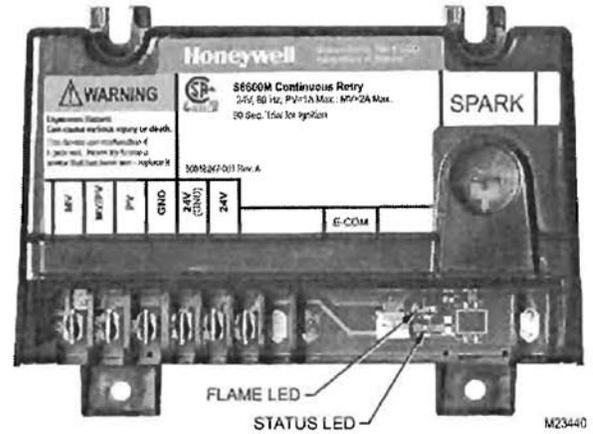

Figure 21: LED Locations
- A. See Figure 20 for electronic ignition (EI). Electronic Ignition Modules with LED indicators. Table 5 cross-references the ignition module terminal designations to the ignition terminal numbers in the wiring ladder diagrams. The yellow LED indicates the status of the flame, see Table 6. The green LED indicates the status of the system, see Table 7. See Figure 21 for LED locations. See Figure 28 for Troubleshooting Guide.